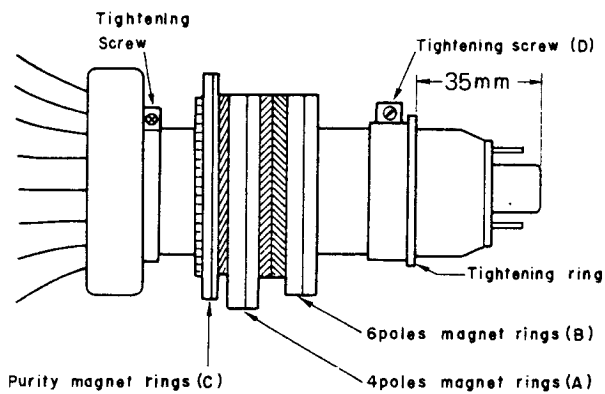
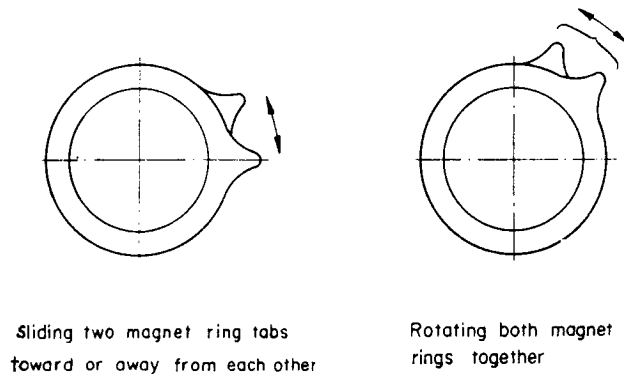

Fig. 16
Fig. 17
3) Rotate the purity magnet (c) (Fig. 16), and set two coloured parts to become equal in area. . . Fig. 15(c).
Note) Put the purity-convergence magnet assembly on the picture tube neck, so that the edge of tightning ring isolated 32 mm from the tip of the neck. . . Fig. 16. Secure it firmly by tightning the screw.
11. STATIC CONVERGENCE ALIGNMENT Fig. 16 and Fig. 17.